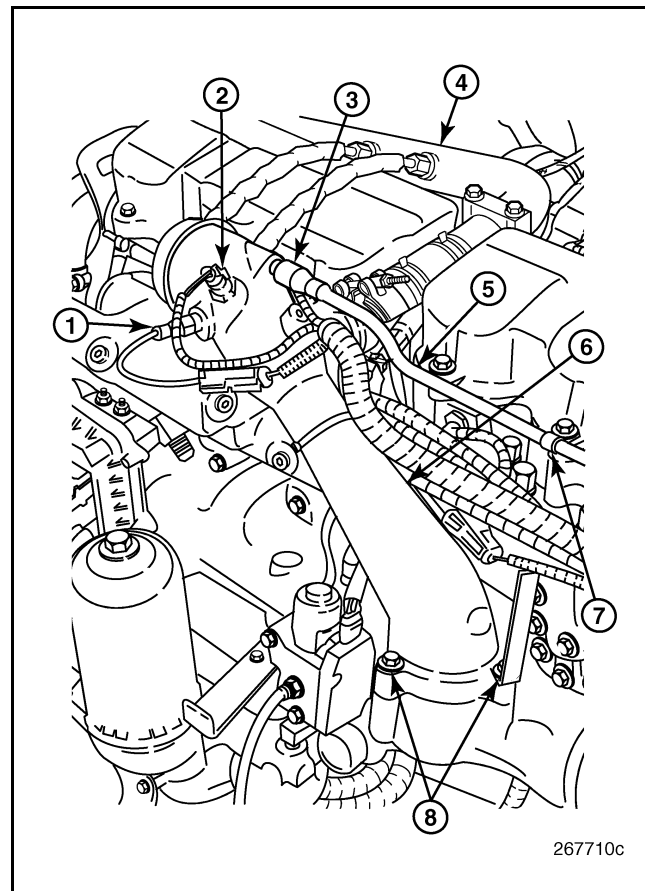

Figure 507 — EGR Gas Mixer Tube
- Remove the capscrews attaching the mixer tube to the inlet manifold (Figure 507) and remove the tube.
- Connect the electrical leads to the CMCAC outlet pressure and temperature sensors (Figure 507).